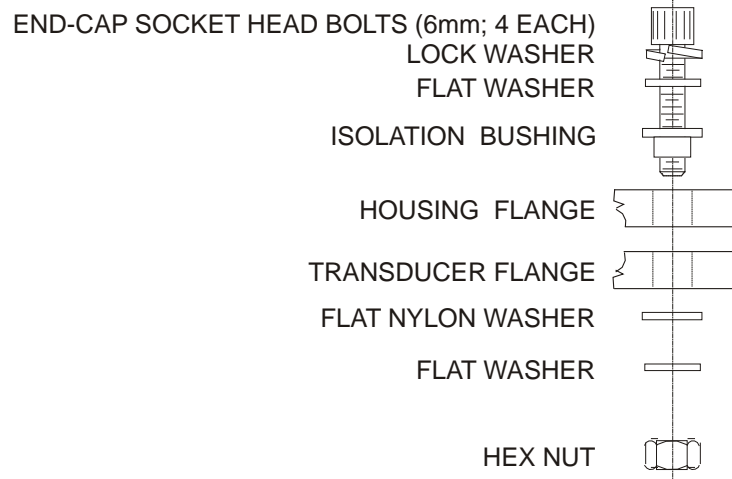

Figure 10. Housing Mounting Hardware
- e. Examine the end-cap assembly nuts, bolts, and washers (6 mm) for corrosion; replace if necessary. Figure 10 shows the assembly order of the end-cap mounting hardware. All the hardware items are needed to seal the H-ADCP properly.